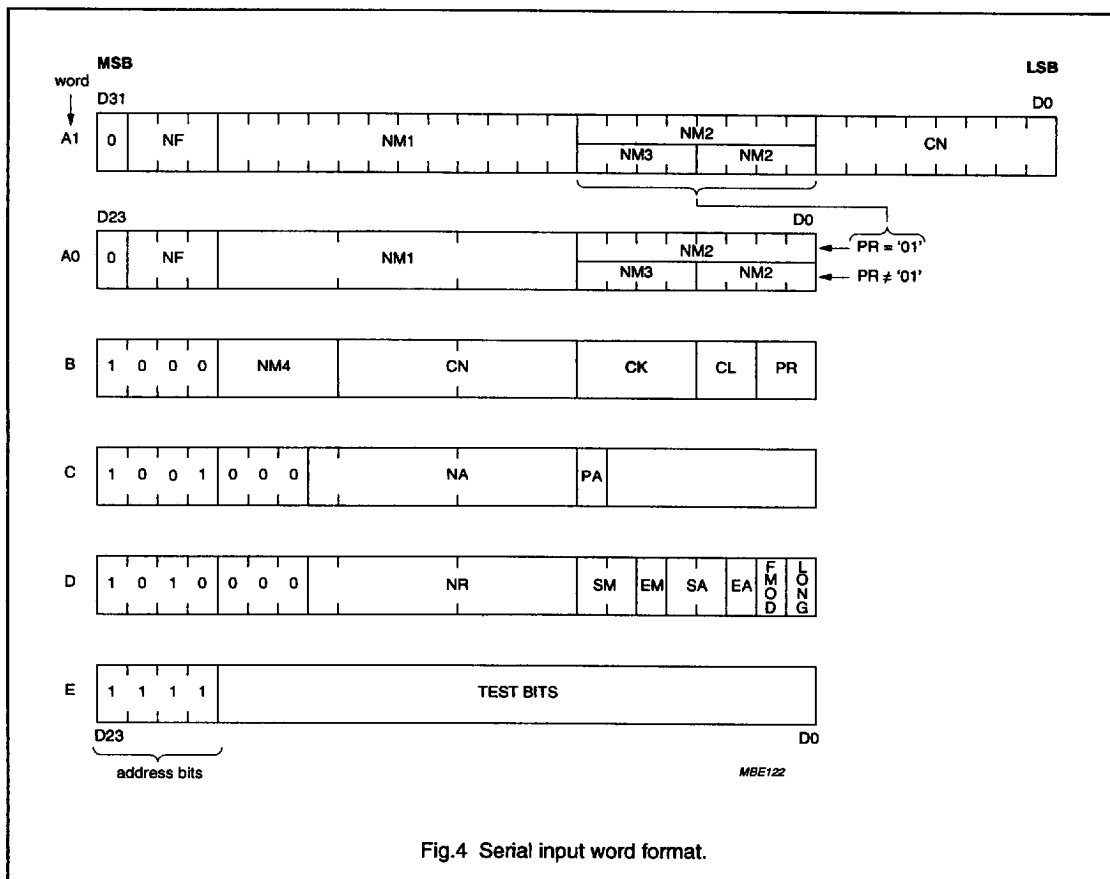

Fig.4 Serial input word format.
Figure 4 shows the format and the contents of each word. The E word is for testing purposes only. The E (test) word
**Table 1** Description of symbols used in Fig.4